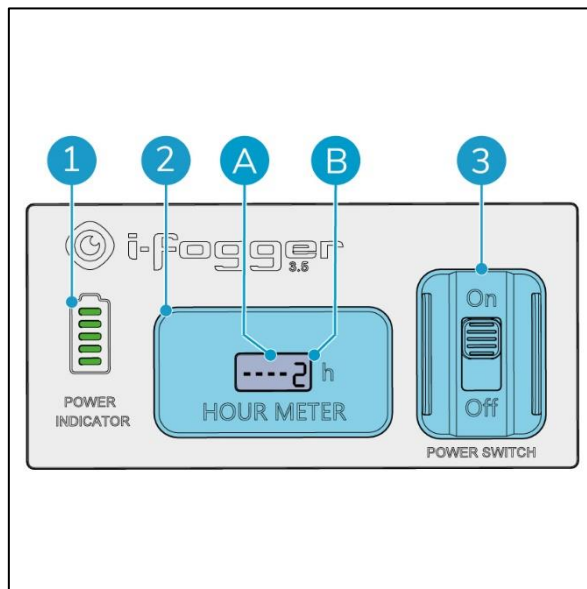

Figure 5
2. Hour meter. The counter on the right (Figure 5, pos B). counts in 6 minute cycles. This means that if the display shows a "1", the i-fogger® has run for 6 minutes. After 10 cycles, the second counter from the right (Figure 5, pos A) will show a "1", this indicates 1 hour. The counter on the right (Figure 5, pos B) starts again at "1".